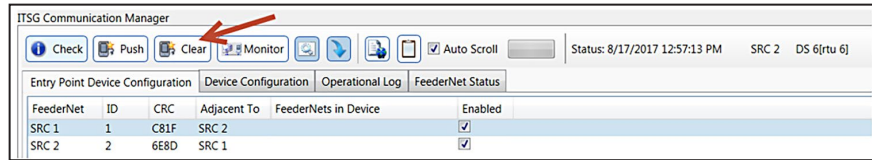
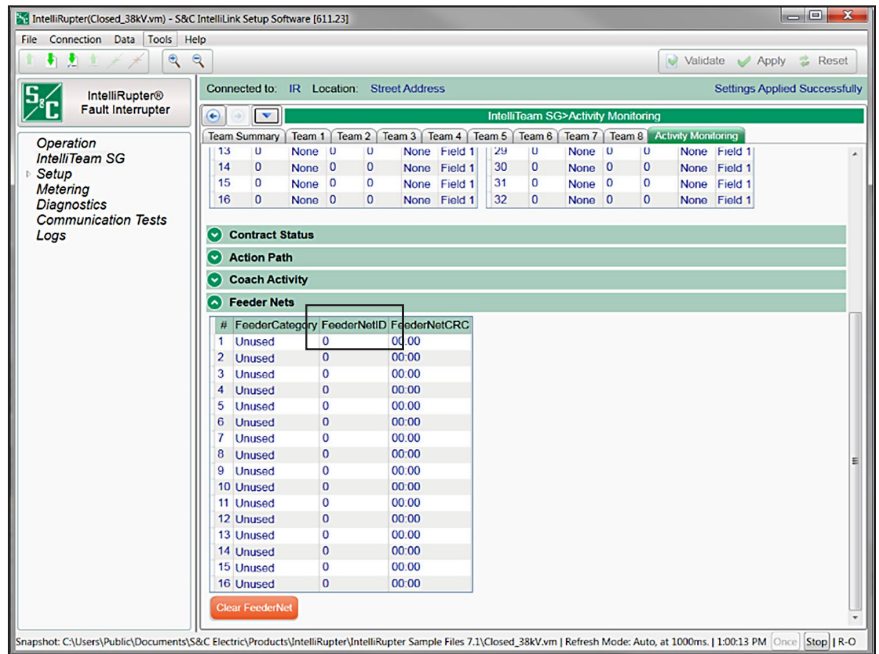

Figure 3. The ITSG Communication Manager Clear button for clearing netlists.
Figure 5. The *IntelliTeam SG>Activity Monitoring* screen – Feeder Nets panel.
STEP 7. When the netlists have been successfully pushed, click on the **Clear** button in the *Communication Manager* screen to clear the netlists. This will stop the IntelliTeam system runners. See Figure 3.
STEP 2. Open the IntelliLink Setup Software and verify the netlists have been removed from all IntelliTeam system-enabled devices by going to the *IntelliTeam SG>Activity Monitoring* screen and reviewing the Feeder Nets panel to make sure there is no FeederNetID listed there. See Figure 5.
This procedure must be completed for each IntelliTeam system-enabled device in the system to ensure the netlists have been removed and the runners are not active. If any device is found to have a netlist or FeederNet, either click on the IntelliTeam Designer communication manager **Clear** button to clear the netlists (see Figure 3 on page 4) or click on the **Clear FeederNet** button in the IntelliLink software on the *IntelliTeam SG>Activity Monitoring>Feeder Nets* screen (see Figure 5 on page 5).